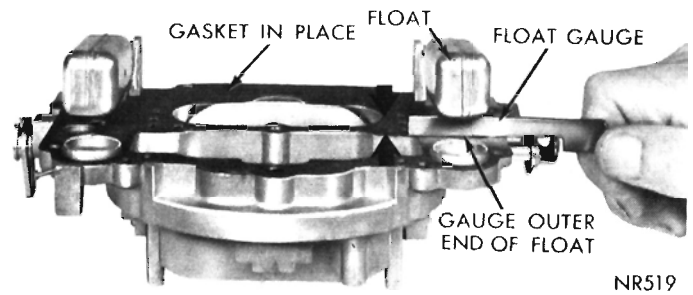

Fig. 11—Checking Float Height
(1) With air horn inverted, air horn gasket in place and float needle seated, slide float gauge (refer to specifications for carburetor being worked on) between top of the float (at outer end) and air horn gasket, (Fig. 11). Float should just touch gauge (T-109-106).
(2) Check other float in same manner. If an adjustment is necessary, bend float arm using Tool T-109-22, until correct clearance has been obtained. After bending arm, recheck the float alignment.